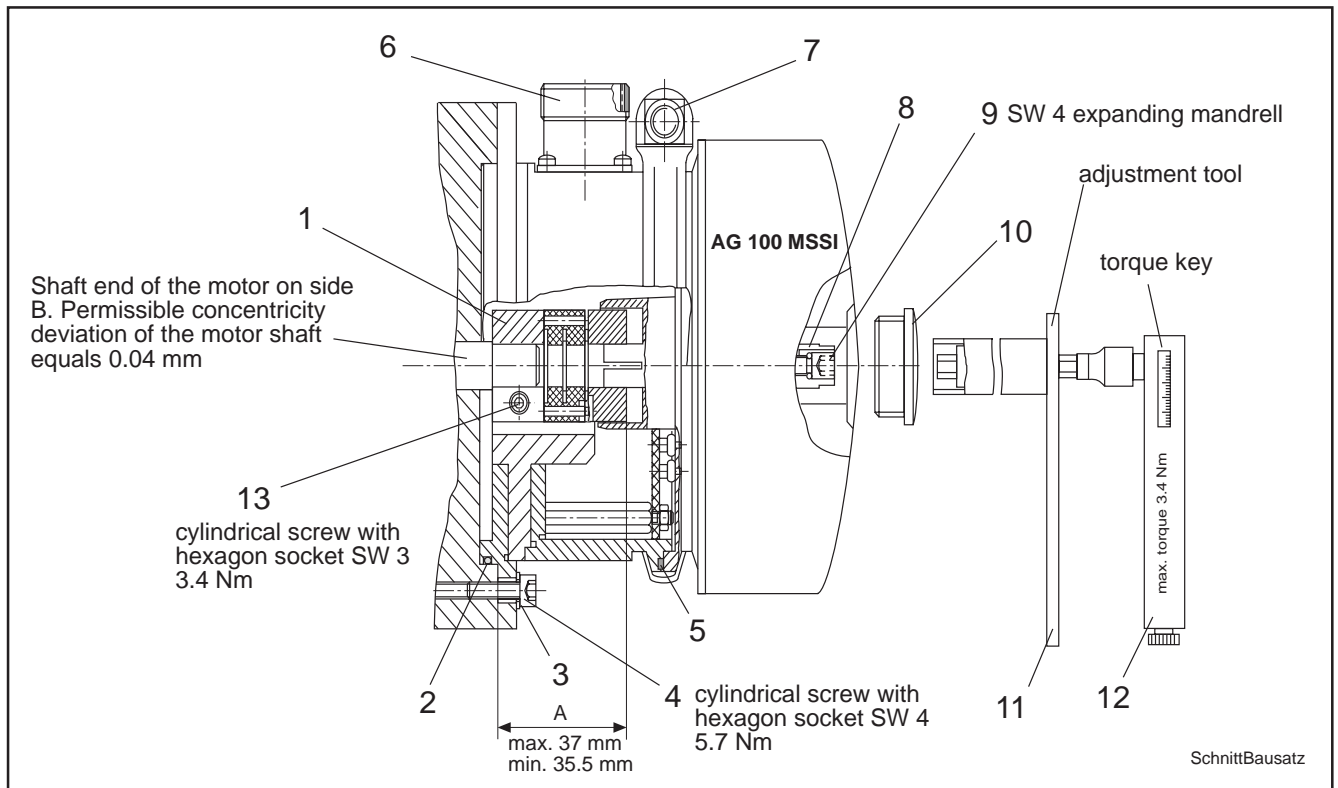

Figure 7.1: Cross-section drawing of absolute encoder mounting set AM 174 SG
A special tool is offered for mounting and setting (INDRAMAT part no. 243 044) see Figure 7.1. The tool must be ordered separately.
2. Push coupling (1) onto the second shaft end
3. Dimension "A" (set distance of flange surface to the end of the coupling, see Figure 7.1)
4. Tighten screw (13) with 3.4 Nm
5. Check whether O ring (2) is mounted to unit
6. Set the mounting set carefully, and without tipping, onto the motor. Feed the expanding shaft (8) into the coupling at the same time.